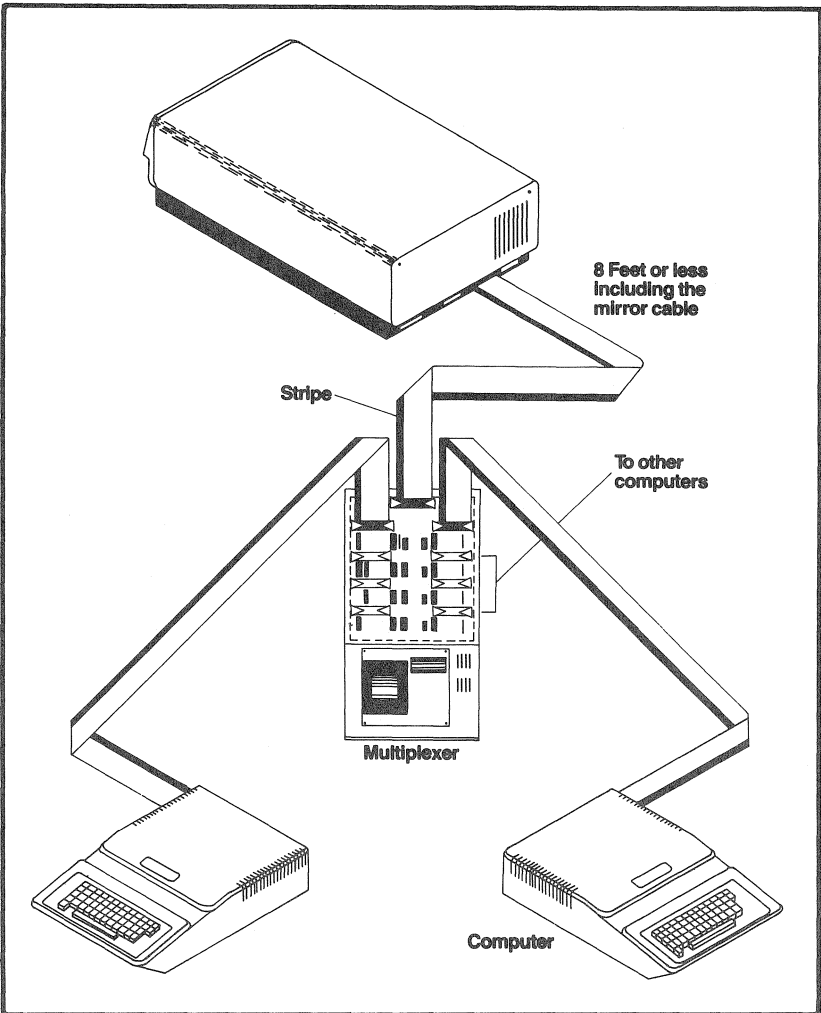

FIGURE 2.16 SINGLE LEVEL MULTIPLEXER SYSTEM
5. Double check to be certain that you have correctly installed the cable from the drive to the Multiplexer central connector, installed the individual cables from the Multiplexer to each of the interface cards, and plugged the cards into their computers (your system should look similar to figure 2.16 or 2.17).